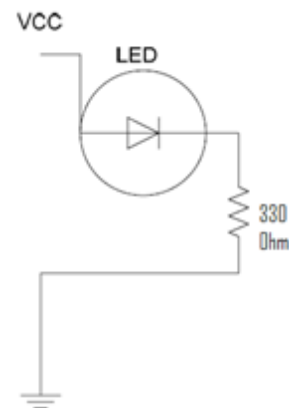

Figure 2 - Voltage Indicator Circuit
- Make the circuit in Figure 2 on the breadboard to turn the LED on.